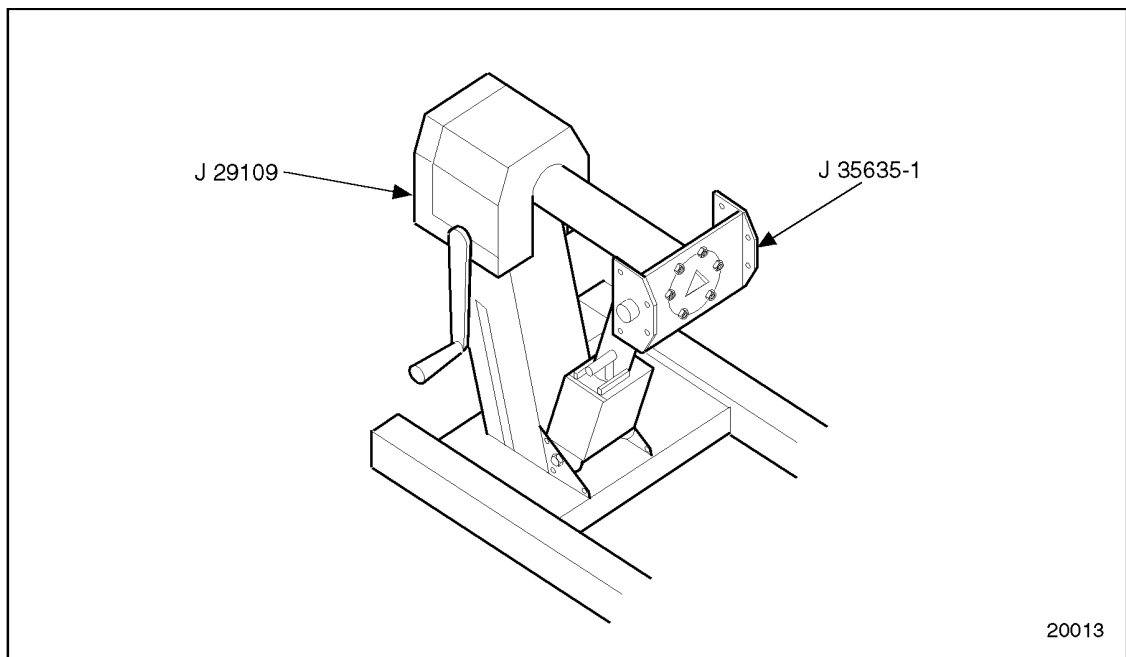

Figure 1-6 Engine Overhaul Stand and Adaptor
17. Use engine overhaul stand, J 29109, with stand adaptor plate, J 39652, for support when stripping a Series 50 Engines cylinder block. See Figure 1-6.